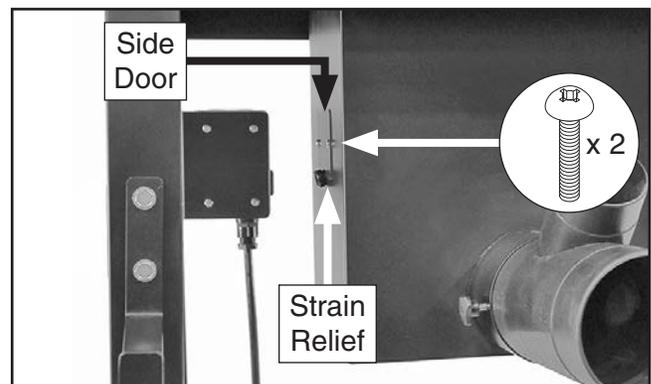

Figure 10. Location of dust enclosure side door.
2. Loosen (2) 10-24 x 3/8" Phillips head screws (see **Figure 10**) securing side door on dust enclosure, and feed router power cord through opening.
5. Install 1/2" strain relief (see **Figure 10**) on router power cord where it emerges from dust enclosure side door and secure by tightening screws.